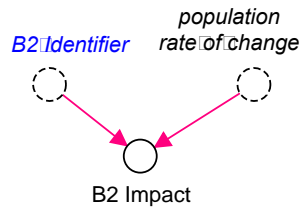

Figure 19: Computation of impact of loop *B2*
- Ghost *population rate of change* and *B2 Identifier* and connect to a new converter *B2 Impact*, Figure 19, where the formula is: